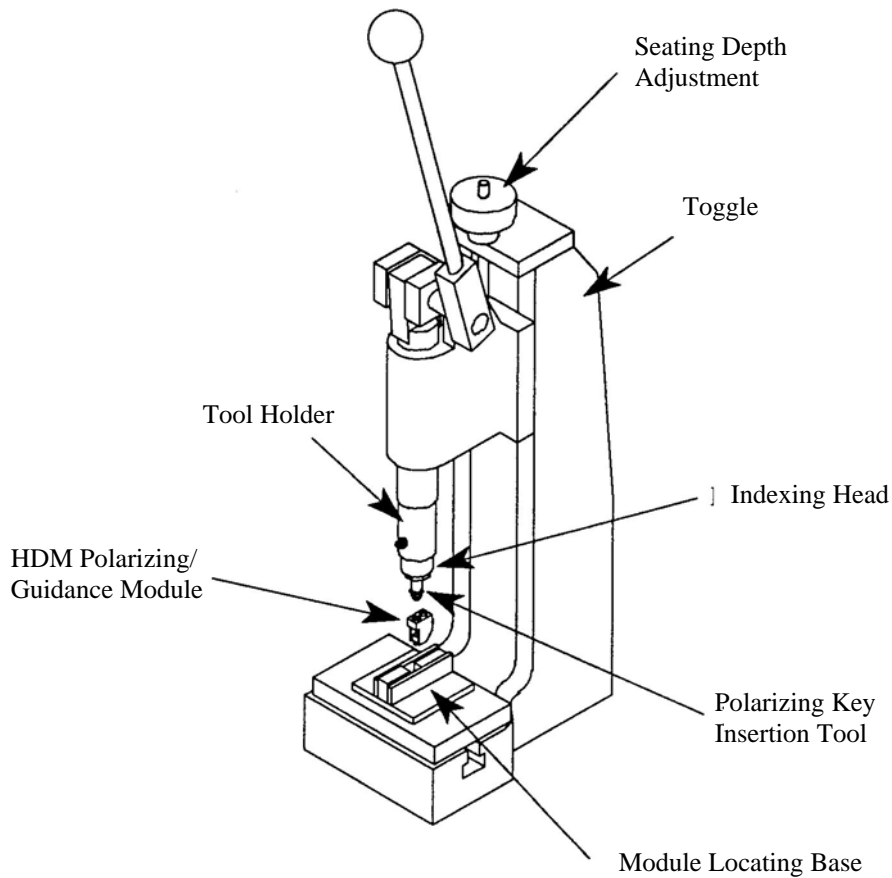

Figure 1
2.1 This tool is intended to be used on loose piece modules only. Review Figure 1 to become familiar with the component descriptions that will be used later in this instruction sheet.